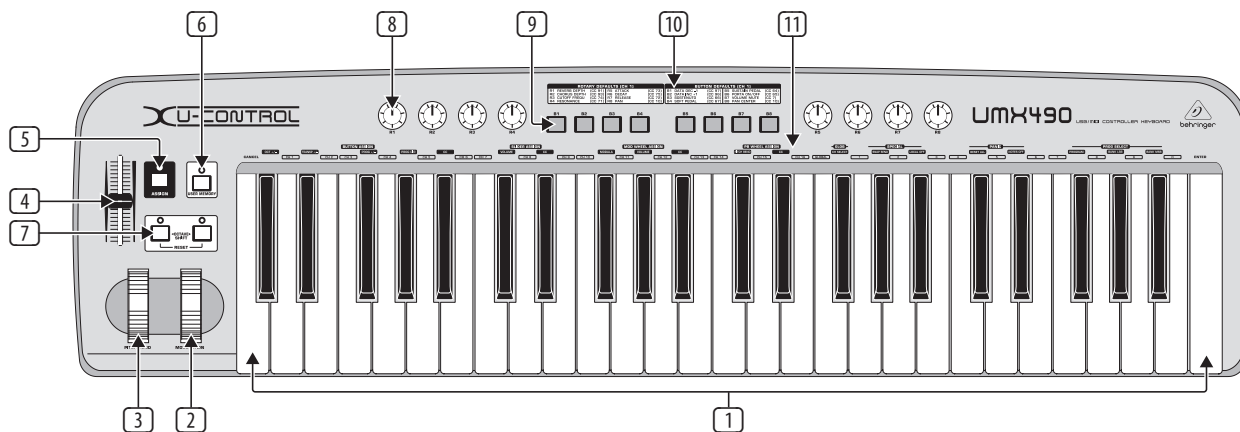

Fig. 3.1: Top view of the UMX
- You use the preset controller configuration set in the factory (see Fig. 3.1). In this case, you only need to make the assignments on the receiving device.